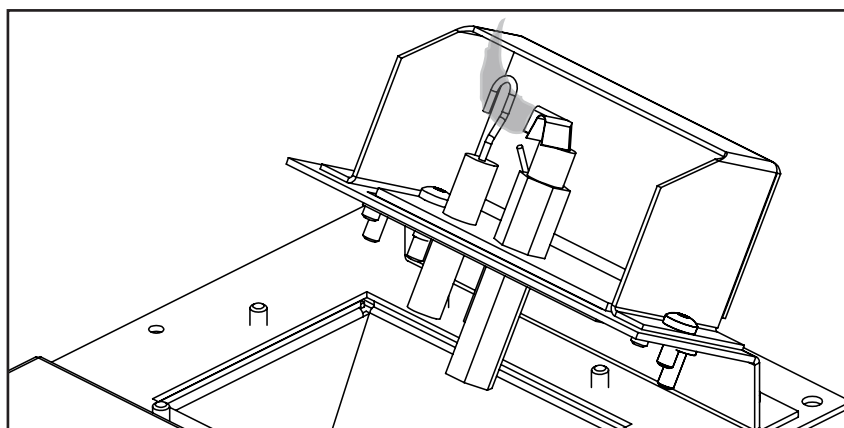

Figure 25: Flame Sensor Coverage
12. Relight the pilot and confirm the flame properly covers the flame sensor hook (see Figure 25). Should the pilot require adjustment, turn the adjustment screw clockwise to decrease or counterclockwise to increase until the correct flame is achieved.